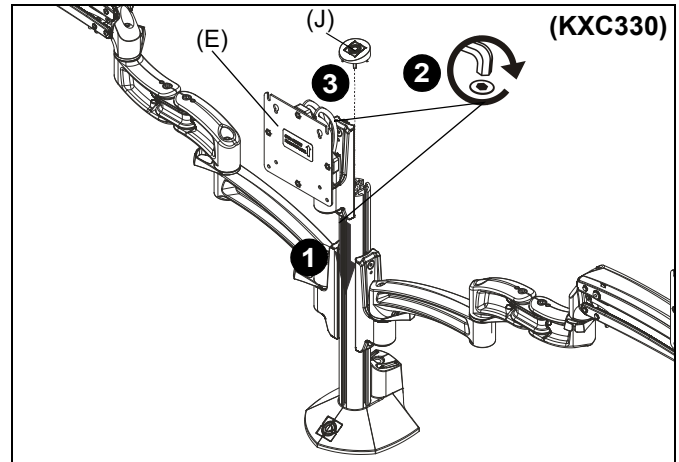

Figure 7
1. Slide center mount (E) into column grooves at desired mounting height.
2. Tighten two screws on base of arm to secure KXC330 center mount (E) to column. (See Figure 7)
3. Install column cap (J) to top of column. (See Figure 7)